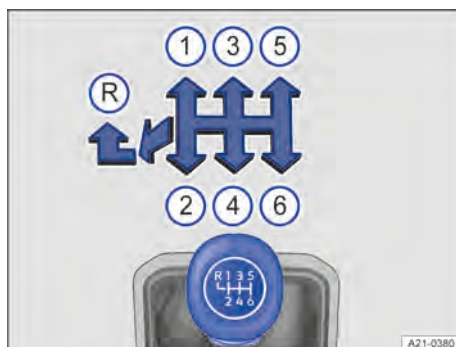

Fig. 103 Gear shift pattern of a 6-speed manual gearbox
The positions of the individual gears are shown on the gear lever → Fig. 103.
3. Pull the ring on the gear lever upwards and push the gear lever fully to the left and then forwards into the reverse gear position → Fig. 103 .